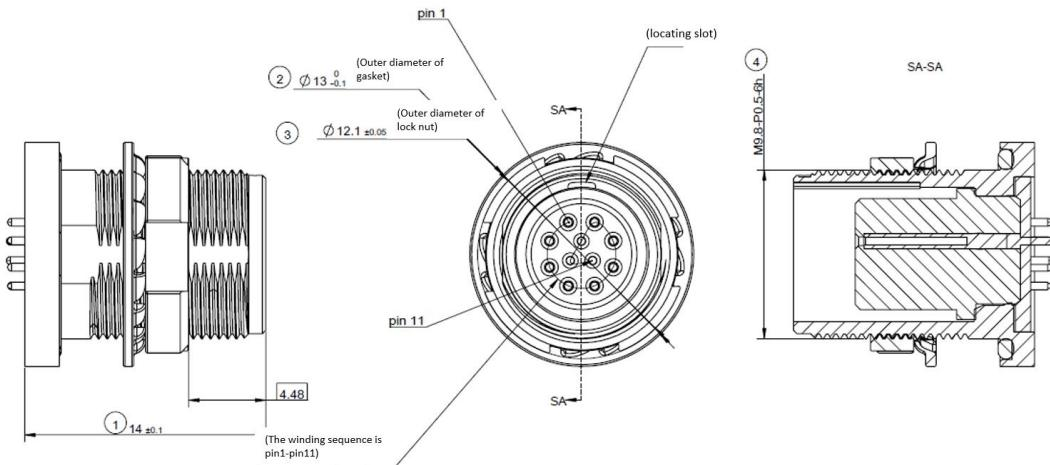

Figure 7 Aviation Plug Interface Pin Numbers
- 1) The GPS\_REC interface specification on the Airy power box is SM2.54 male connector, the pin definitions are shown in Figure 7 ;
The cable aviation plug on the Airy LiDAR side is shown in Figure 7 .